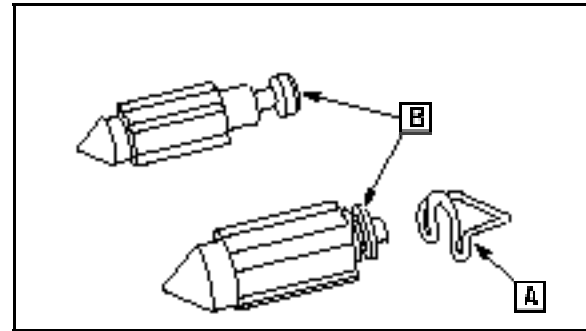

Fig. 88
14. Install spring (A) to groove in fuel needle valve ([B] Fig. 88).